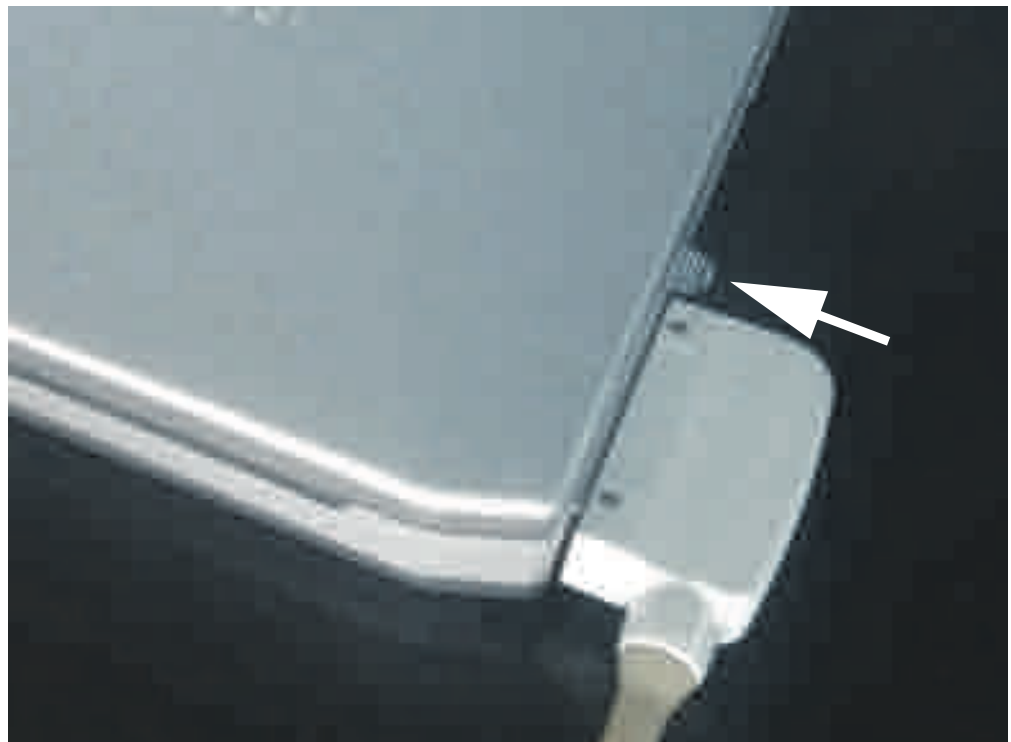

Figure 3-5: Probe Connection Locking lever
STEP 4 Align the probe connector with the probe port and carefully put it into the port (Refer to Figure 3-5).